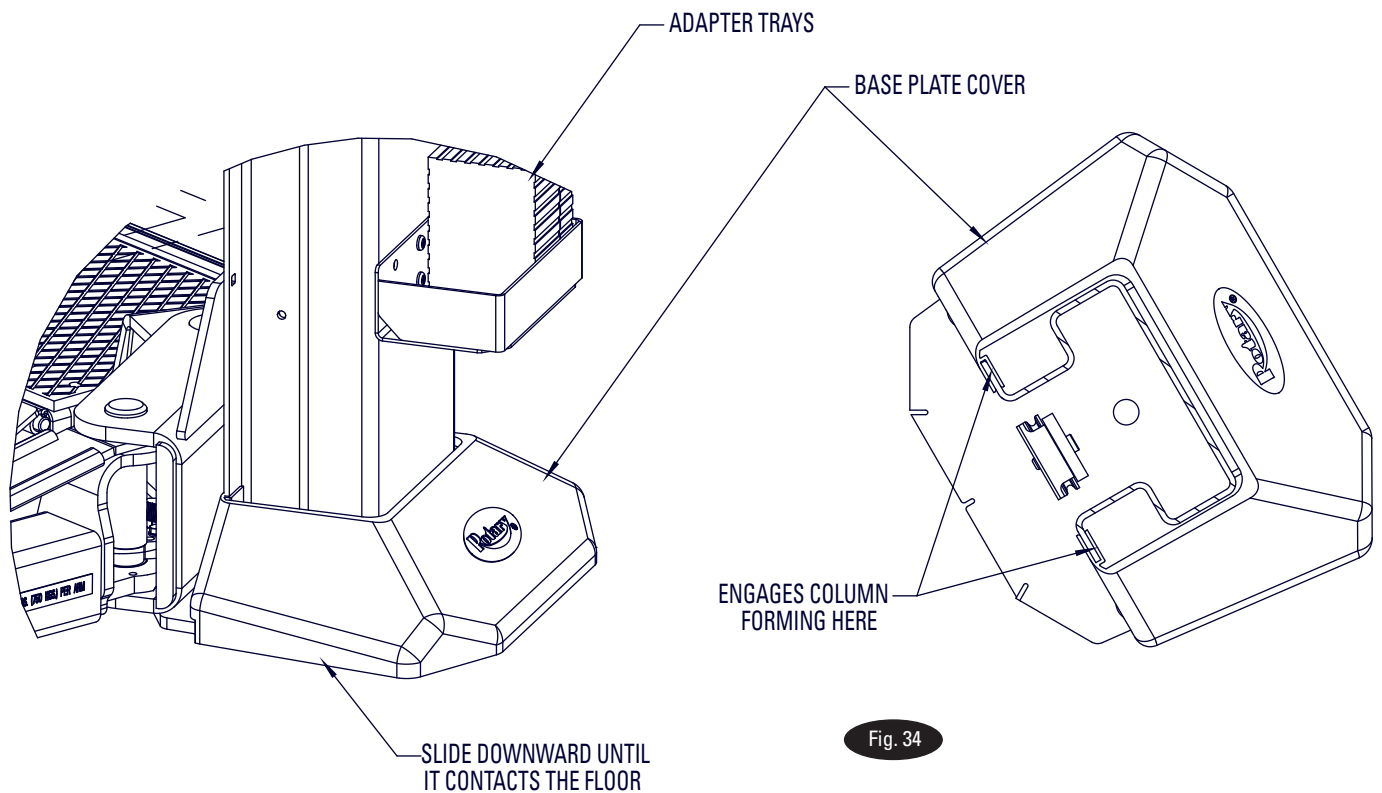

Fig. 34
- A) Attach using (2) 1/4"-20NC flat head cap screws, Fig. 34, (4) places.
- a. Attach base plate covers as shown in Figure 34. Make sure that the base covers engage the column forming and are slid downward until it sits on the floor.